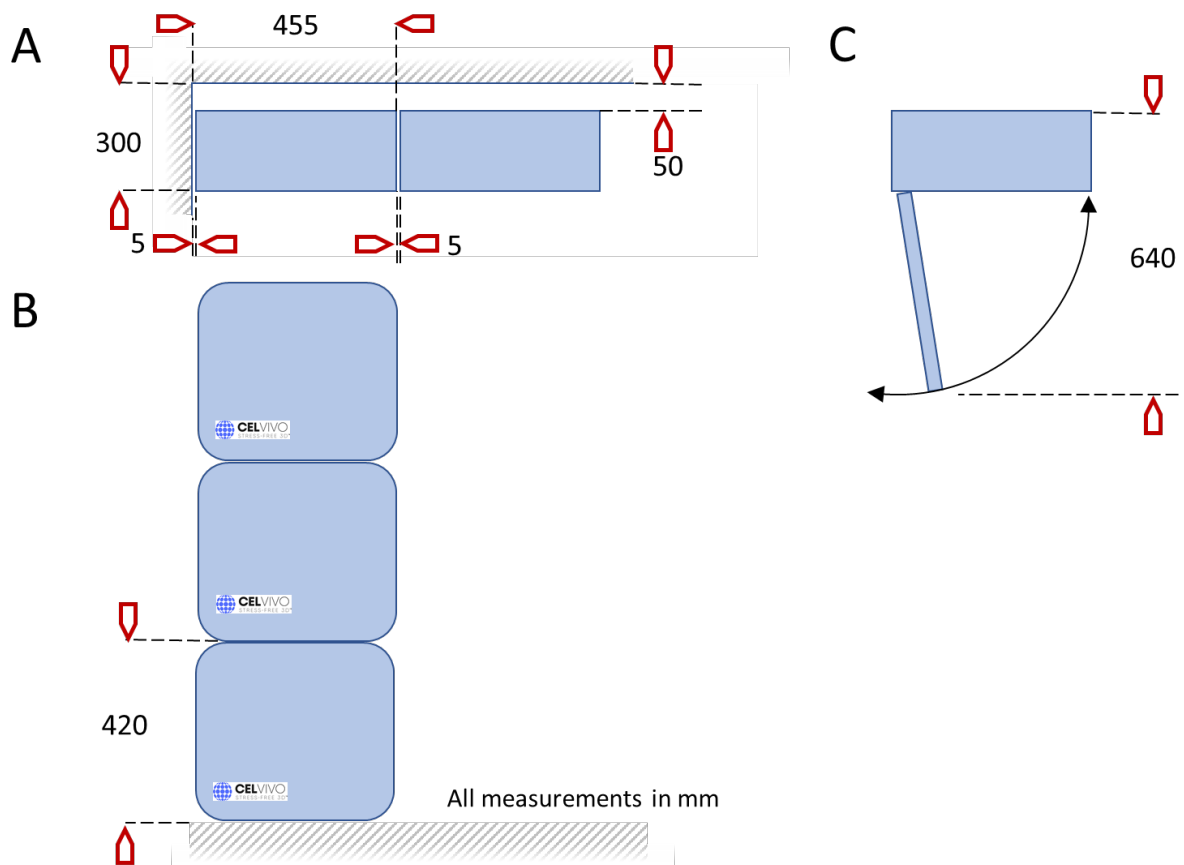

Figure 6
- The minimal distance to adjacent surfaces which must be observed are given in figure 6
Minimal space around the ClinoStar is illustrated in figure 6. A) illustrates the unit from above showing clearance to side and back walls or other units, B) illustrates the unit from the front showing that it can be stacked 3 units high, C) illustrates the door opening arc. Shading indicates a wall, other equipment or the supporting surface. The space behind the units is required for the power cords and the CO2 supply. The curved arrow indicates the space needed to fully open the door.